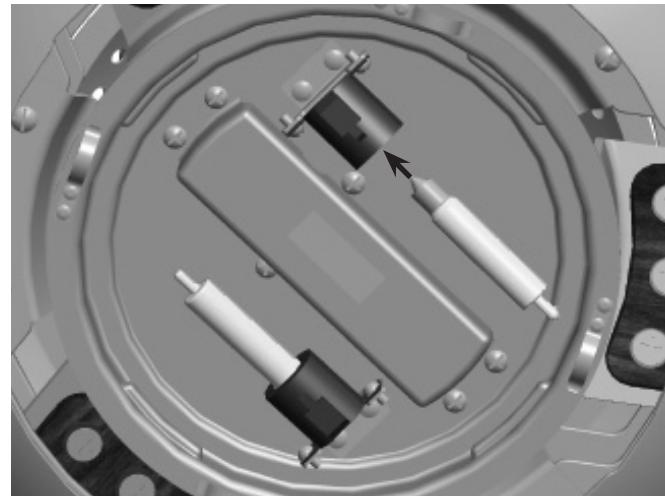

FIGURE 1.
Step 1. Install both Halogen Bulbs into the Light Kit. Figure 1.